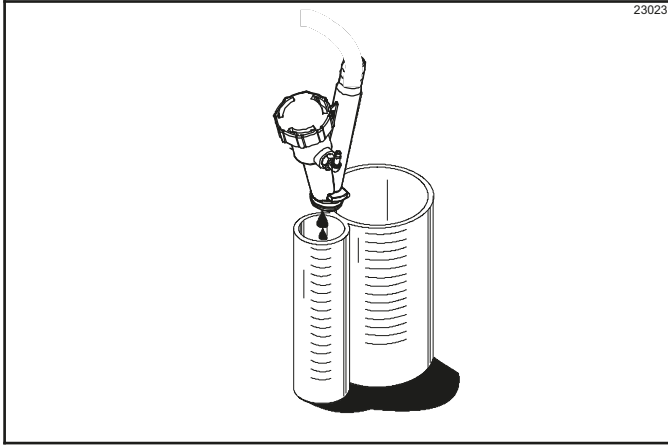

Figure 6-61
- Hold the small portion of the syrup calibration cup under the syrup valve. (See Figure 6-61.)